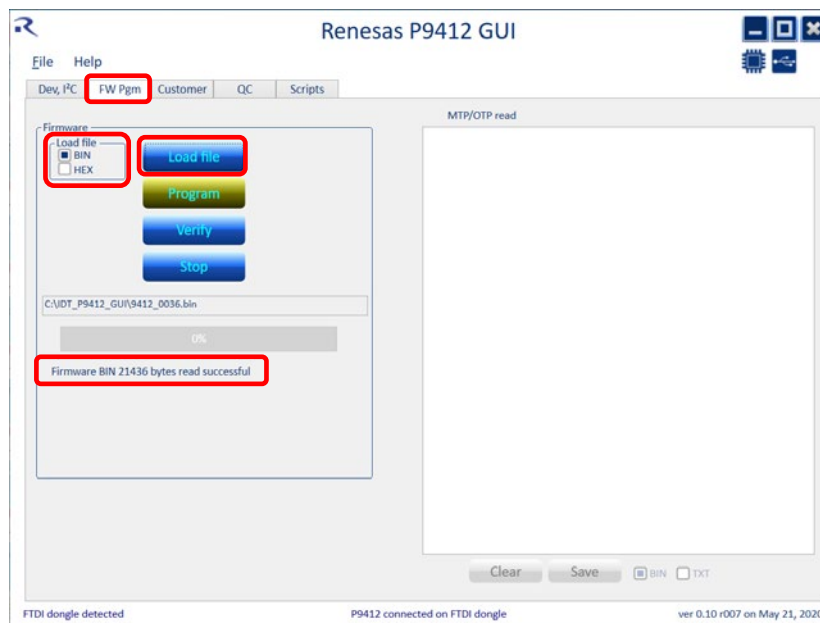

Figure 7. P9412 MTP Programming using I²C Slave Device Address 0x3C
| Figure 7. | P9412 MTP Programming using I ² C Slave Device Address 0x3C | 10 |
- To update the MTP program, select the “FW Pgm” tab. Then make sure the proper file type is selected, either HEX or BIN box is checked and Press the “Load File” button, a pop-up window will appear. Navigate to the current P9412 FW *.* file and Open the file. See Figure 7, which indicates the FW file was read successfully.